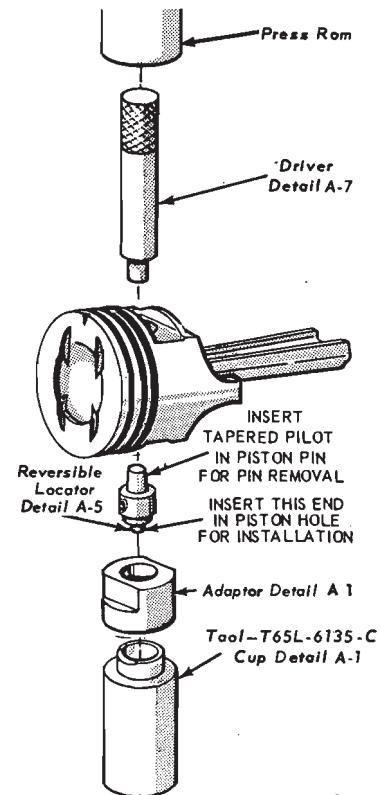

FIG. 34—Piston Pin Removal and Installation—Typical
3. Remove the piston rings. Remove the piston pin from the piston and connecting rod using the tool shown in Fig. 34.
2. Start the piston pin in the piston and connecting rod (This may require a very light tap with a mallet). Press the piston pin through the piston and connecting rod until the pin is centered in the piston (Fig. 34).